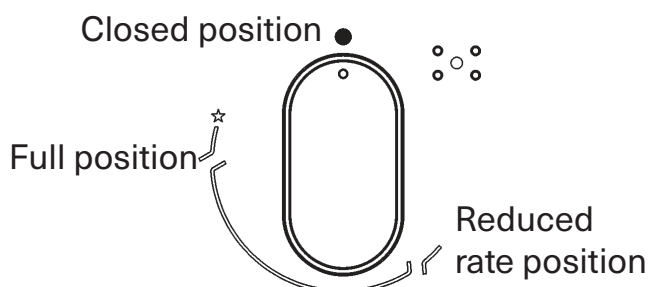

Fig. 22
Push and turn the knob corresponding to the required burner in an anticlockwise direction until it reaches the full on position (large flame fig. 22), then depress the knob.
The knobs of burners equipped with flame failure device must be turned in an anticlockwise direction until they reach the full on position (large flame fig. 22) and come to a stop. Now depress the knob in question and repeat the previously indicated operations.
- When the pan comes to the boil, set the knob to the reduced rate position (small flame fig. 22).
- Burners with flame failure device may only be ignited when the relative knob has been set to the Full on position (fig. 22).